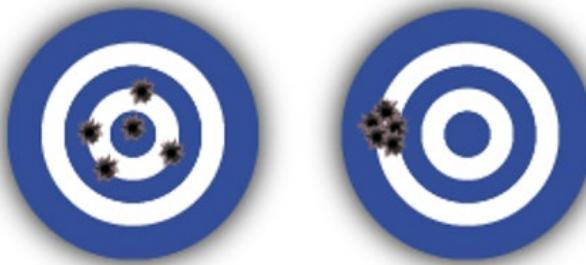

Figure A1(a) / Rajah A1(a)
*Bahagian ini mengandungi **TIGA (3)** soalan subjektif. Jawab **SEMUA** soalan.*
- CLO1 (a) By referring to Figure A1(a), explain between basic instrument parameter of accuracy and precision.